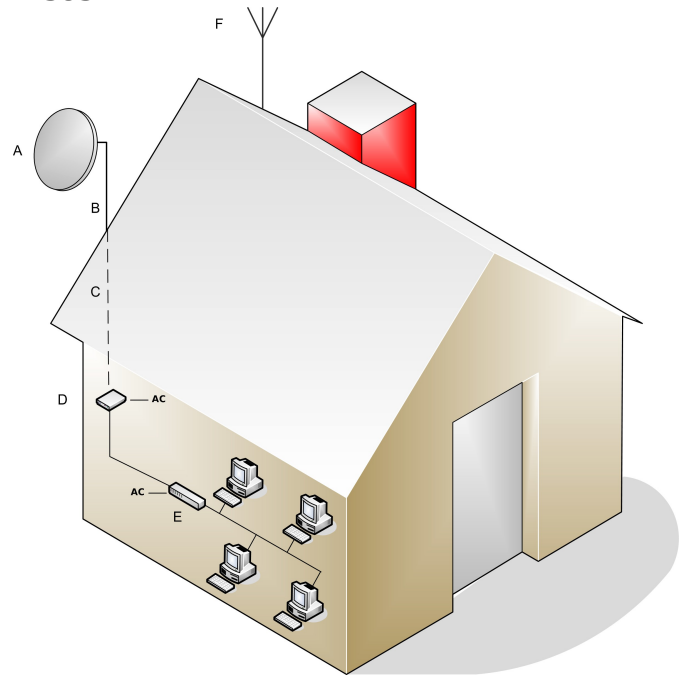

Figure 2: Equipment at the Partner's premises
- 4) Each partner will be equipped with a radio transceiver and an antenna (see Figure 2) to be able to communicate with the tower.